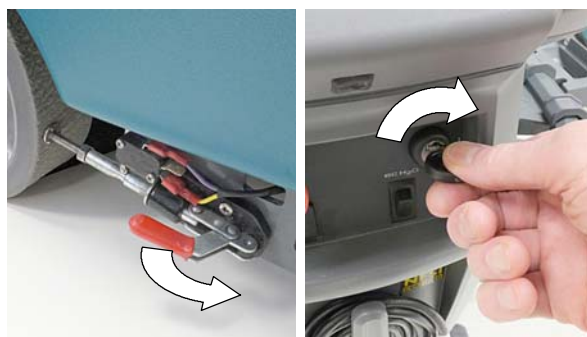

FIG. 63
1. Release the parking brake lever, if equipped (Figure 63)
2. Turn the key to the on (I) position (Figure 63).